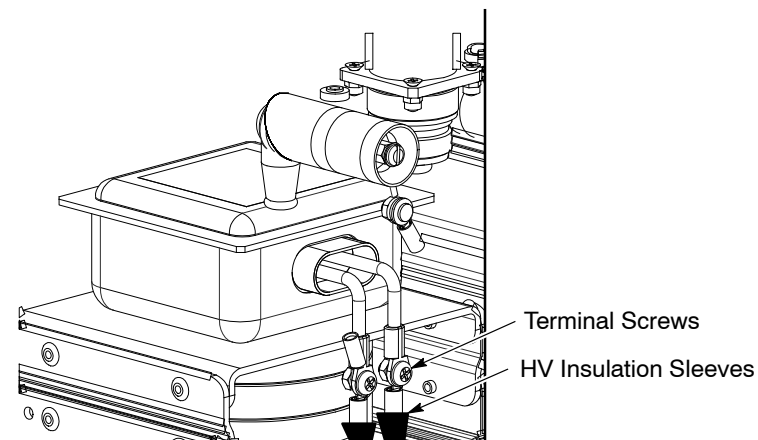

Figure 6-18 Magnetron Removal
2. See Figure 6-18. Cut the four ties securing the black high-voltage (HV) insulation sleeves to the HV cables. Slide the sleeves down to expose the two ring-tongue terminal connections.
- See Figure 6-18. Cut the four ties securing the black HV insulation sleeves to the HV cables at the magnetron. Slide the sleeves down to expose the ring-tongue terminal connections.
13. See Figure 6-18. Use the screws removed in step 3 to connect the X2 secondary cable to the magnetron **F** terminal pigtail. Connect the X1 secondary cable and the 20 AWG HV cable with ferrite to the **FA** terminal pigtail.